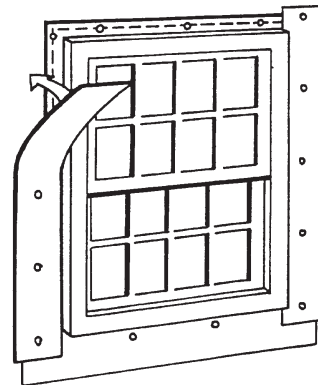

Figure 29.
- Follow this application with flashing on the sides of the window. Make sure to overlap the bottom flashing (Fig. 29).